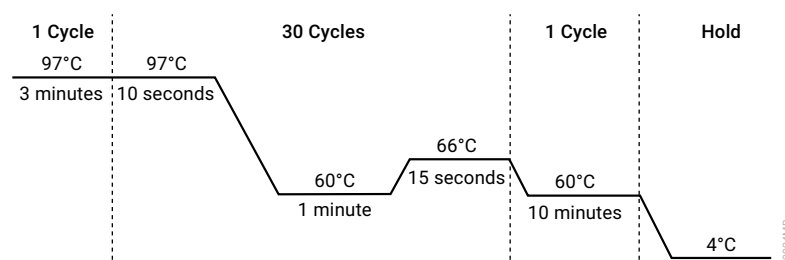

Figure 2. The thermal cycling protocol for the Mastercycler® X50s PCR System.
- Select and run the protocol provided below and in Figure 2. The total cycling time is approximately 75 minutes.